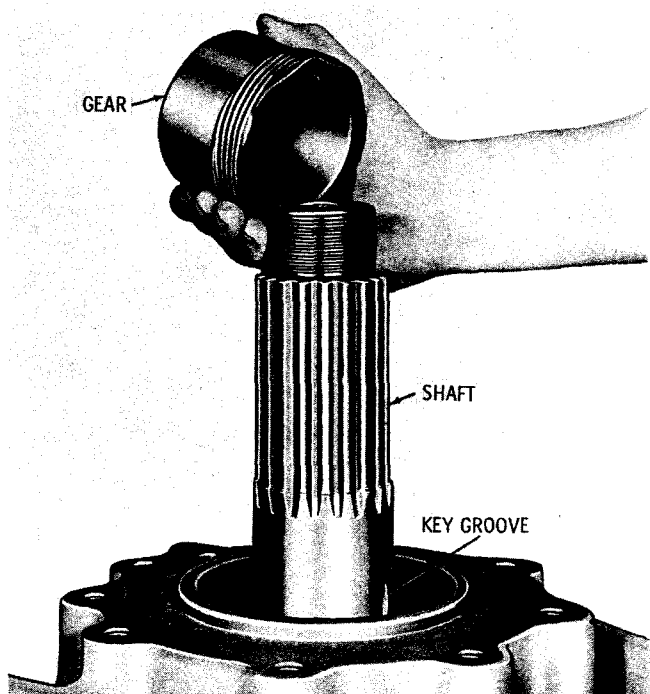

Fig. 7-31. Installing speedometer drive gear S1678
(4) Install the speedometer drive gear, toothed end first, onto the output shaft (fig. 7-31). The key, formerly used, is no longer required. If the transmission is equipped with an automatic-electric shift control system (or is of current production), install gear assembly 75 (A, foldout 17) spur-tooth gear last onto the shaft.